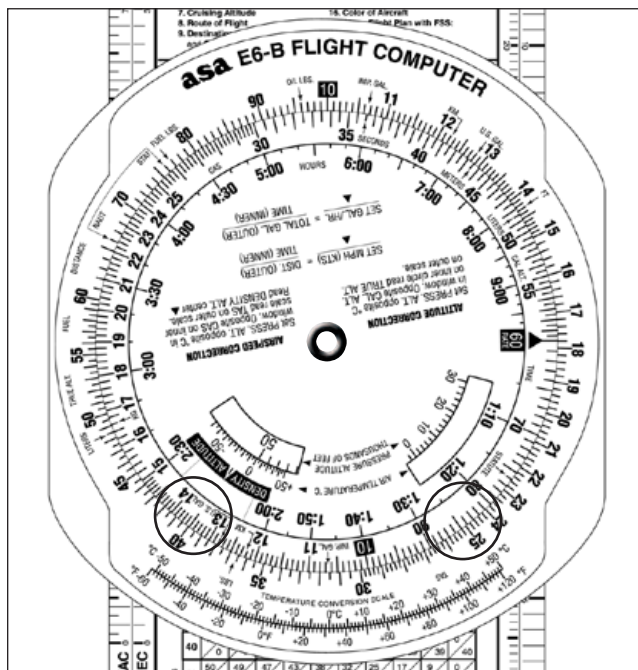

Figure 9-17. Determining flight time remaining on the E6-B
2. Under 25 (outer scale), read 84.5 minutes of fuel remaining. See Figure 9-17.